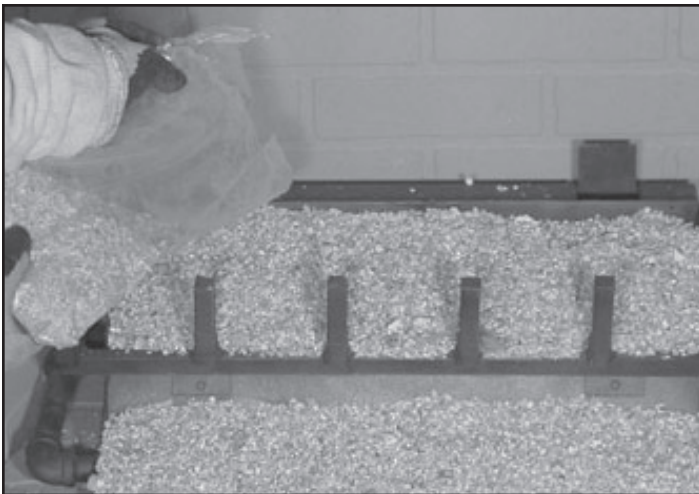

Figure 4 Placing Vermiculite
- Pour vermiculite over the sand in the pans until they are full. See Figure 4.